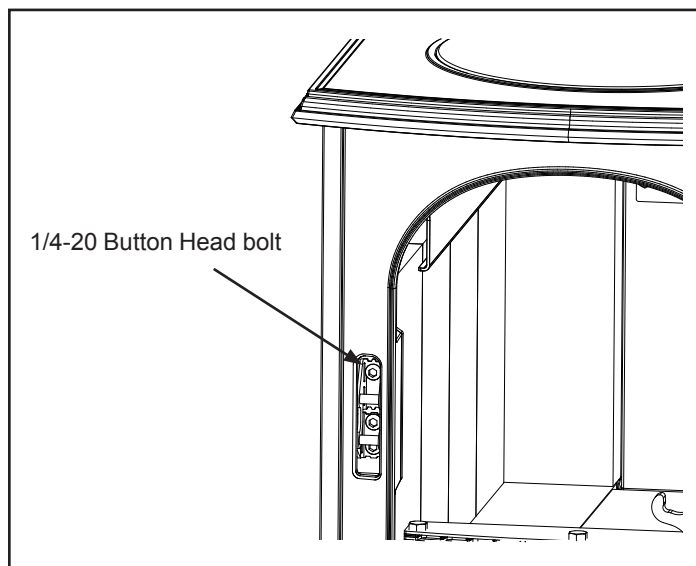

Figure 9.2 - Tighten 1/4-20 Button head Bolt
2. Tighten the top 1/4-20 Button Head screw, Figure 9.2.